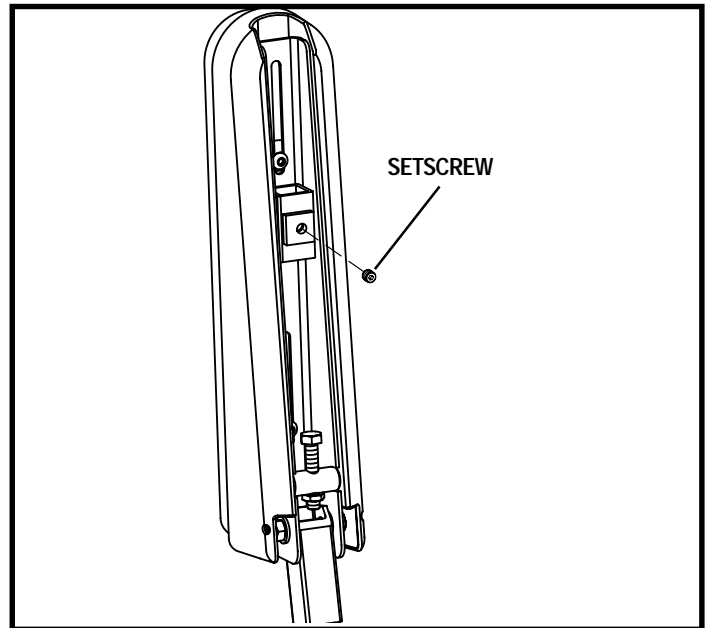

Figure 16. Underside of Armrest
5. Flip up the armrest and loosen the setscrew. See figure 16.